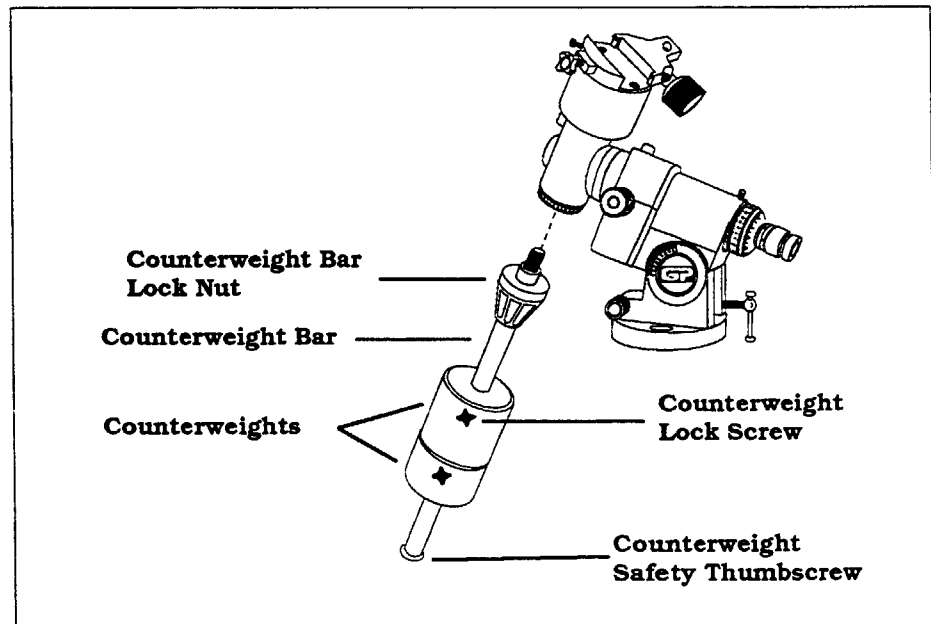

Figure 2-7
2. Thread the counterweight bar into the mount completely. Once again, it threads into the mount opposite the telescope (see figure 2-7).
4. Slide the counterweight onto the counterweight bar. Move it high enough to allow room for the second weight (see figure 2-7).